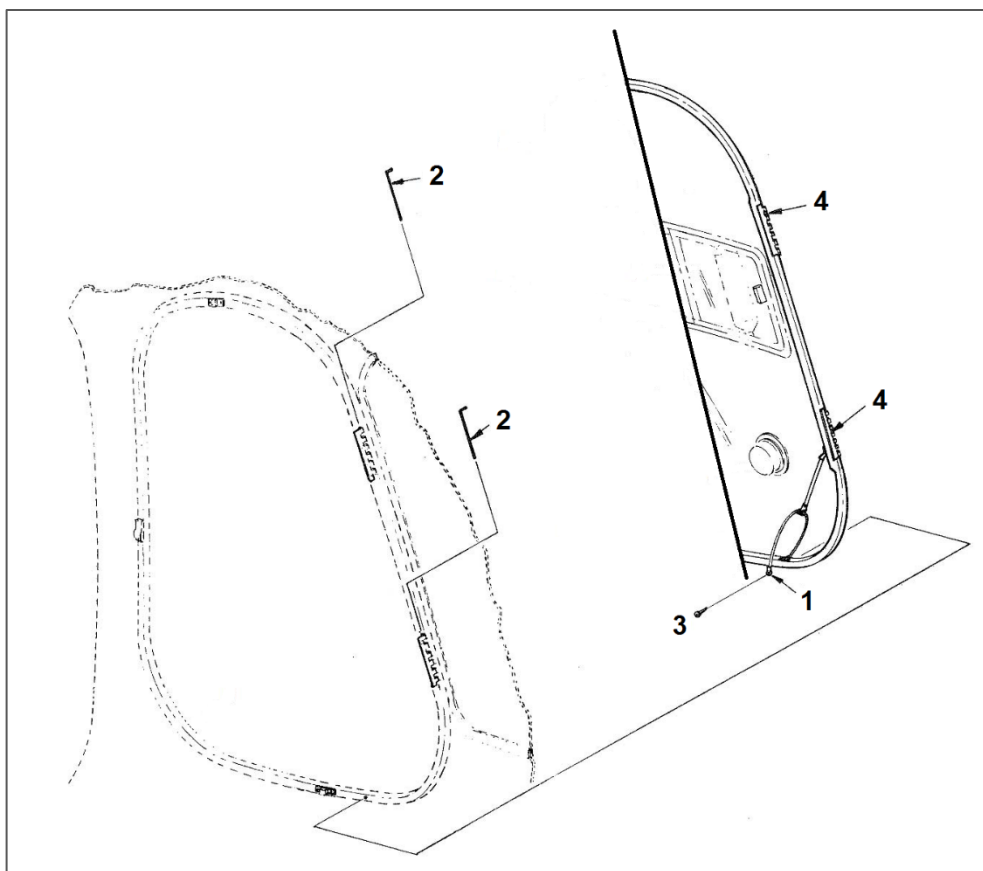

Figure 1. F-28A / F-28C Door Removal and Installation
6.1 F-28A/F-28C Door Removal (Figure 1)
NOTE: The cabin door depicted in Figure 1 utilizes the bungee cord. Configurations may vary.
6.2 F-28A/F-28C Door Installation (Figure 1)